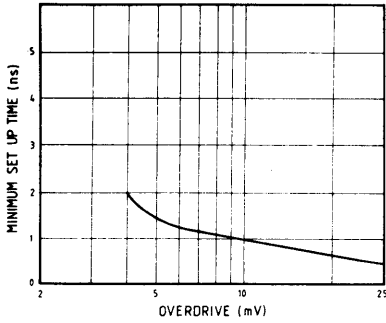

Fig. 7c T_s v. overdrive set-up time
2. This parameter is defined with $+100$ mV input and -10 mV overdrive, corrected to take account of the comparator offset, i.e. the switching threshold effectively is at $0V$ on the input waveform. The relationship between setup time and overdrive is shown in Fig. 7c. The test circuit diagram, Fig. 4 indicates a method of performing this test.